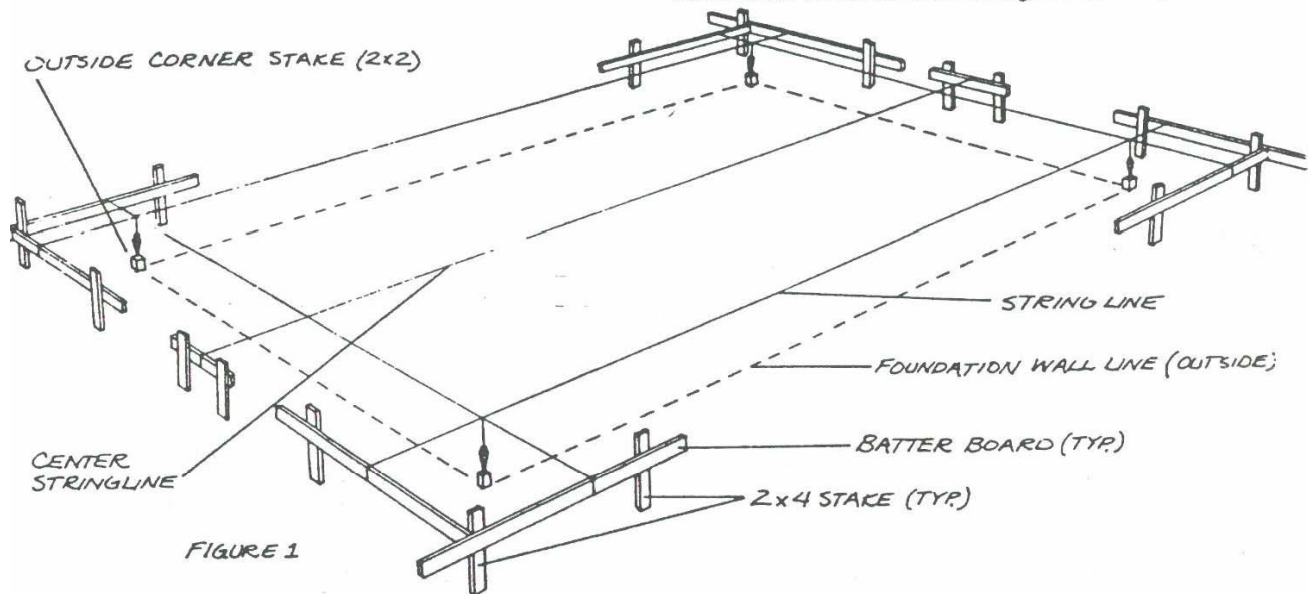
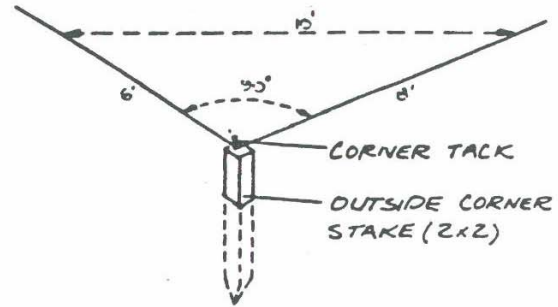

FIGURE 1
FIGURE 2
3. Lay out the outside foundation lines. Figure 1 shows the simplest method for locating these. Locate each outside corner of the house and drive small stakes into the ground. Drive tacks into tops of these stakes to indicate the outside line of the foundation wall (not footings). Next check squareness of house by measuring the diagonals, corner to corner, to see that they are equal. (If structure is rectangular, all diagonal measurements will equal.) You can check squareness of any corner by measuring down one side for 6 ft., down the other for 8 ft. The length of the diagonal line across these two end points should measure exactly 10 ft. If it doesn't, the corner isn't truly square. See Figure 2.
4. After corners are located and squared, drive three 2 x 4 stakes at each corner as shown in Figure 1. Locate these stakes 3 ft. to 4 ft. outside the actual foundation line. Then nail 1 x 6 batter boards horizontally so that their top edges are all level and at the same grade (see Step 6 for a method of checking their levelness). Hold a string-line across tops of opposite batter boards at two corners and using a plumb bob, adjust so that it is exactly over the tacks in the two corner stakes. Cut saw kerfs ¼ in. deep where the line touches the batter boards so that string-lines may be easily replaced if broken or disturbed.
2. Using a plumb bob from the foundation layout string-line, locate outside corners of the block foundation. Measure about 4 in. beyond corner points to establish footing edge lines (see Figure 1). Outline both outside and inside perimeters of the footing with string. Dig the footing trench to required depth. Install forms of 1/2 inch APA® grade-trademarked plywood or 2 x 8's supported by 2 x 4 stakes driven into the soil about 2 ft. apart (see Figure 2). These stakes should be driven below the top of the formboards, to facilitate leveling the concrete.